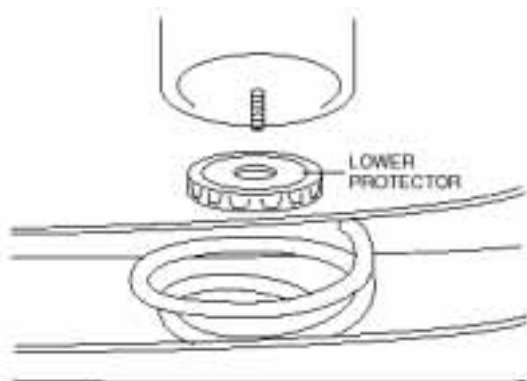

Figure 2
6. Push cylinder to the top of the coil and insert protector on top of lower spring seat. Snap downward into position (Figure 2).
If the vehicle has a rough and harsh ride it may be due to either too much pressure or not enough (fig. 2). Try different pressures to determine the best ride comfort.